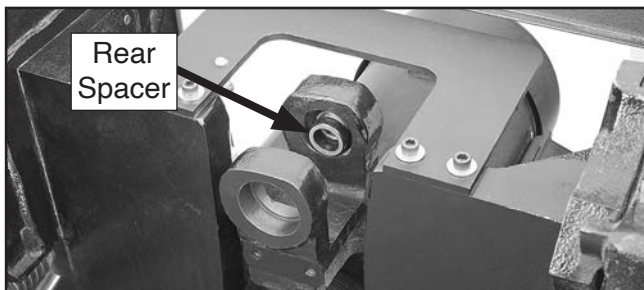

Figure 136. Location of rear spacer.
15. Remove rear spacer from bearing housing (see **Figure 136**).